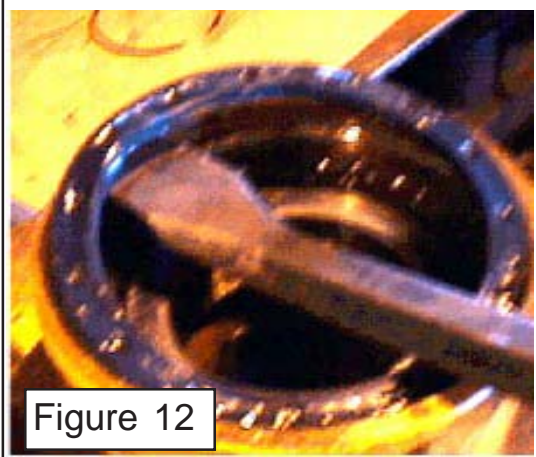
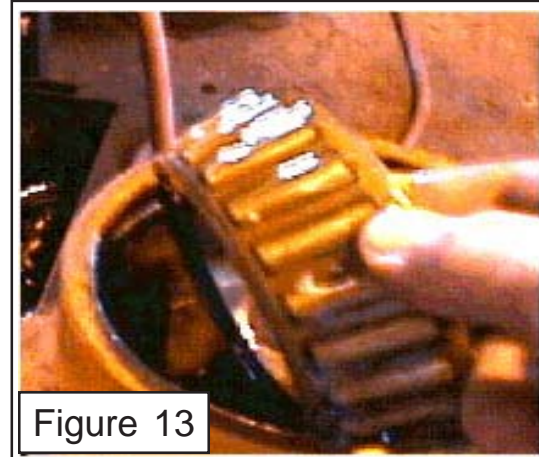

Figure 12
Figure 13
9. Pry out the lower seal. **BE CAREFUL NOT TO DAMAGE THE SPINDLE HOUSING.** A new seal is required for rebuild of the spindle. (figure 12). Remove the bearing and check it for damage or excessive wear (figure 13).